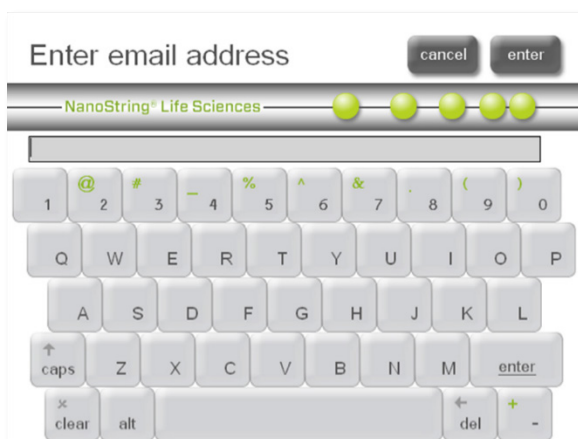

Figure 32: The 'Enter email address' screen.
15. Select the email addresses where error and completion confirmation emails should be sent. To add a new address, press **add email**, type in the address, and press **enter** (Figure 32). Finally, select whether the Prep Station should make an audible alarm when processing is finished. When all alerts have been set, press next.